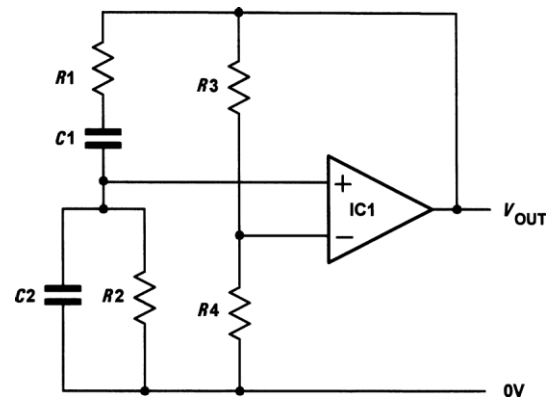

Figure 9.25 See Question 9.13
- 9.13 Derive an expression (in terms of R_3 and R_4) for the minimum value of voltage gain required to produce oscillation in the circuit shown in Fig. 9.25